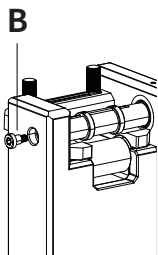

Fig.6
- 2.As shown in Fig. 6, use P to loosen the screw on the side of the B Main Shaft.